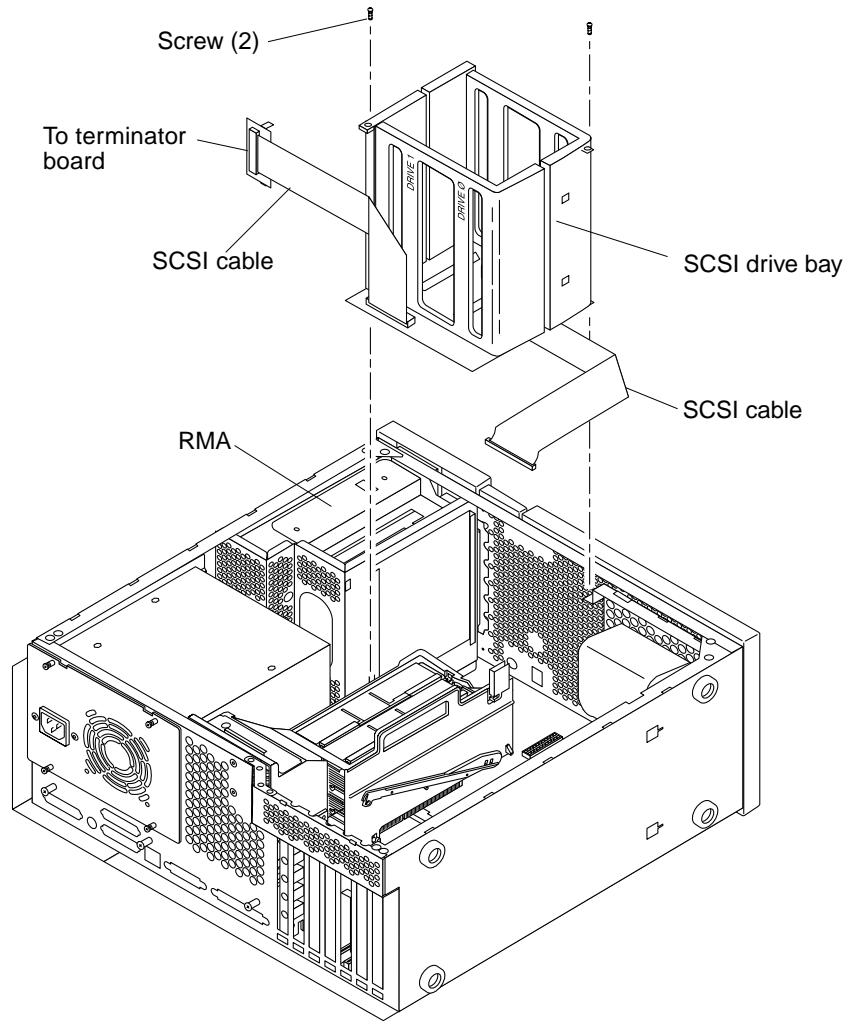

FIGURE 8-17 Removing and Replacing the SCSI Drive Bay
8. Remove the SCSI drive bay (FIGURE 8-17):
5. Replace the SCSI drive bay (FIGURE 8-17):